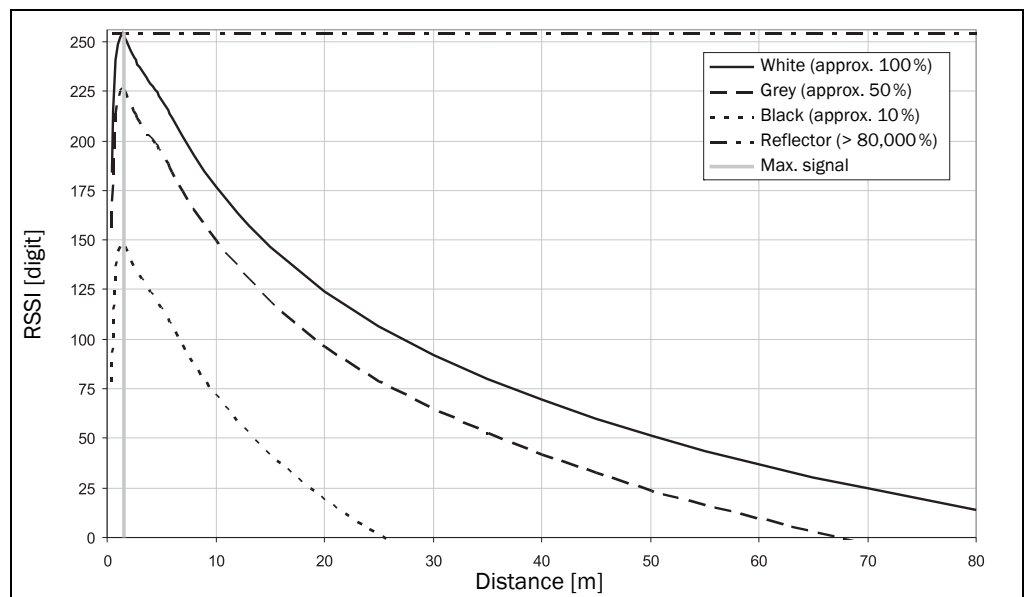
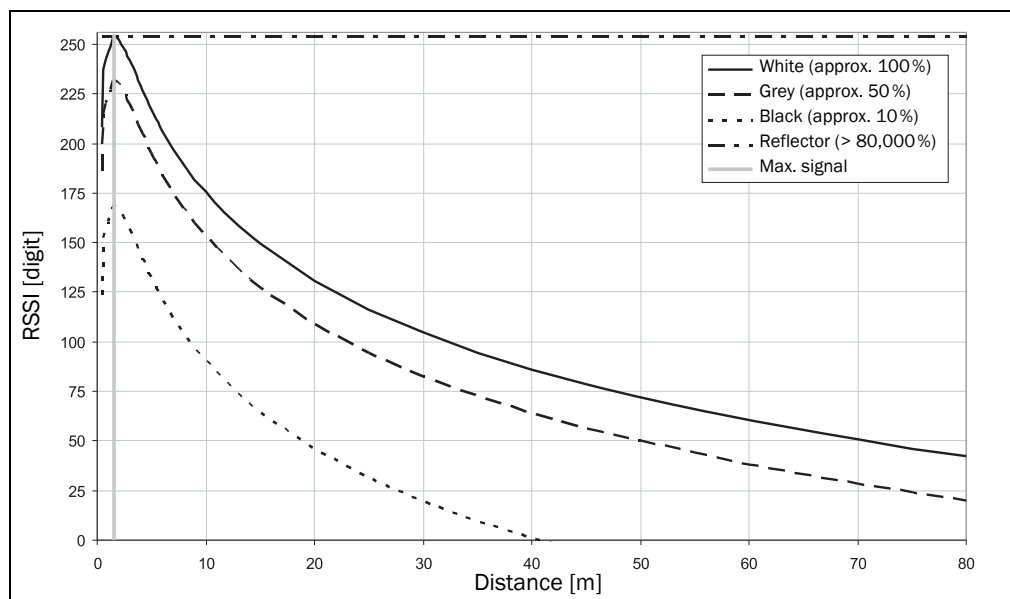

Fig. 20: Typical RSSI values HR
Fig. 21: Typical RSSI values SR
**Fig. 20** and **Fig. 21** show the different approximate curves for the RSSI ranges of the HR and SR variants depending on the object remission, with 10% being the lowest (black), and 100% the highest (white paper). The value of  $> 80,000\%$  represents a reflector. This is the reason why the resulting curve remains constantly at 254.